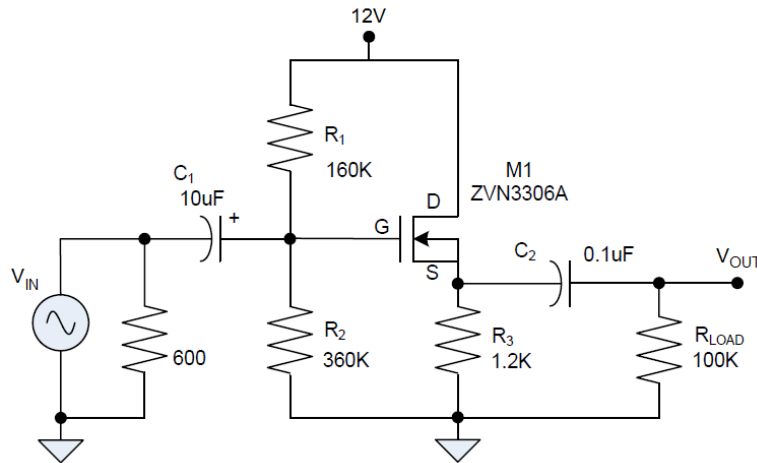
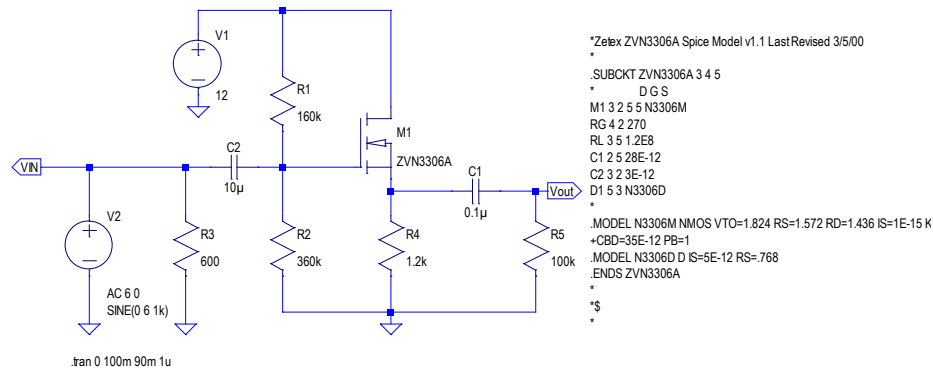

Figure 3. N-channel MOSFET source follower circuit
Figure 6. LTSpice transient model of a NMOS source follower
The common-drain NMOS amplifier shown in Figure 3 is one such amplifier for small signal. The resistive network  $R_1$ – $R_3$  is designed to place the MOSFET at an optimal working point. In prelab question 4, you will be asked to find out what if MOSFET is not biased optimally. The name source follower indicates the output is taken from the source and is in phase with input, i.e.  $V_s$
Question 3: Use LTSPICE to calculate the frequency response of the circuit shown in Fig. 3 in the frequency range of 10 Hz to 100 KHz. Use the SPICE model of ZVN3306A and  $V_{IN} = 1$  V in
Many factors can contribute to clipping such as power drawn exceeding supply capability, poorly designed bias point for the transistors, and current saturation. In this lab, we will examine how bias point affects the clipping of an amplifier. The NMOS source follower circuit shown in Figure 3 is modeled with LTSPICE in transient mode, as shown in Figure 6. The source  $V_{IN}$  is a sinusoidal wave with a frequency of 1 KHz and an amplitude of 12 Vp-p.
The peak-to-peak output can be further reduced if the output stage does not have a quiescent DC output voltage set to half the supply voltage. For the amplifier circuit shown in Figure 3, the Q-point for  $V_{DS}$  shall be around 6 V to achieve the maximal unclipped peak-to-peak output.
4. Construct the circuit shown in Figure 3. Connect the oscilloscope to measure the input and  $V_{OUT}$ .